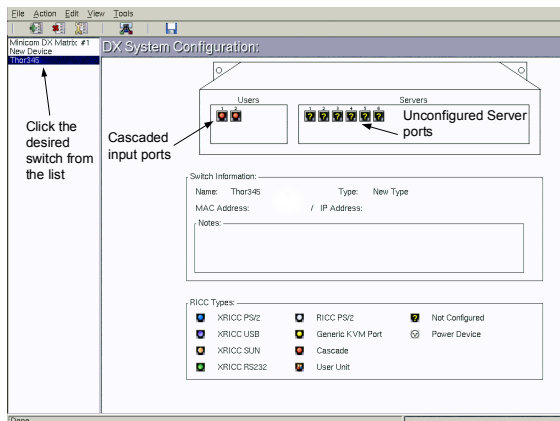

Figure 41 Legacy switch configuration
Note! You can configure the cascade inputs by clicking the User ports on the figure of the Legacy switch. See Figure 41.
1. In the DX Configuration window, click the desired Legacy switch from the list, see Figure 41. A figure of the switch ports appears.